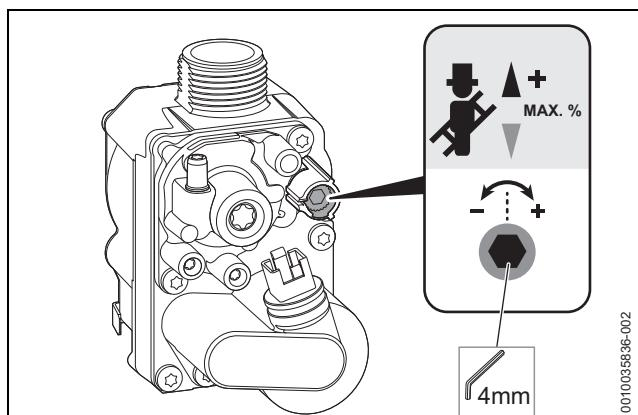

Fig. 85 Setting the CO2 content
- Insert the hex tool into the adjusting screw of the gas valve (as shown in the below Figure 85) and set the CO2 content for maximum rated output.